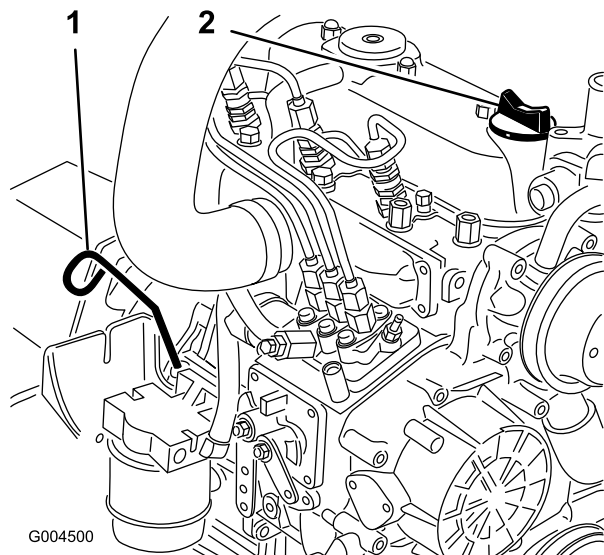

Figure 46
2. Remove the dipstick (Figure 46), wipe it clean, and install the dipstick. Remove the dipstick and check the oil level.
3. If the oil level is below the Full mark, remove the fill cap (Figure 46) and add oil until the level reaches the Full mark on the dipstick.